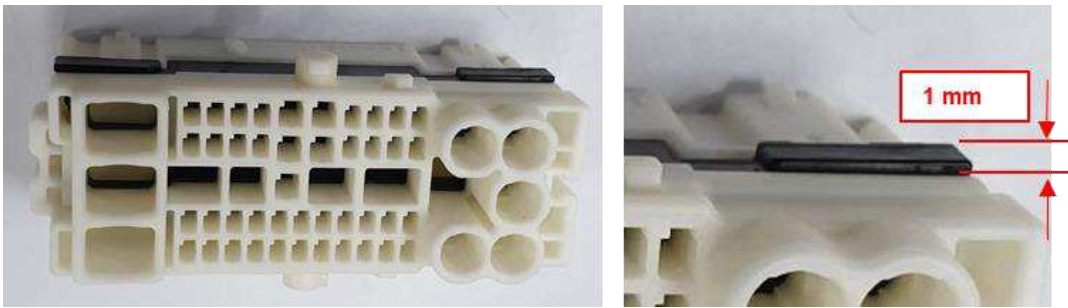

Fig. 15
- (4) After extracting contact, moving plate should be normal position (moving plate on the support) to re assembly plug part. Push moving plate up on bottom side of cap. (see Fig. 15)
- (1) Check retainer is in pre-lock condition as shown in Fig.15. The contact cannot be inserted in case of the final lock condition so do it again after rework.
- (2) In case of Female Contact insertion or extraction, Retainer should be extracted to Pre-Lock condition (see Fig.15, 19)